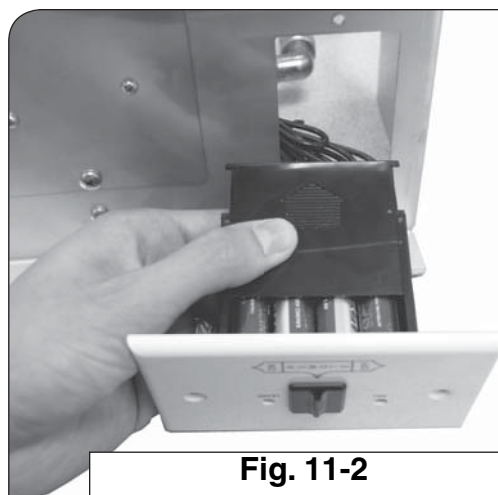

Fig. 11-2
To access the "AA" battery pack, unscrew and remove the two (2) retaining screws on the control system. Pull out the control system and then slide open the battery pack lid as shown in Fig. 11-2. Replace the old batteries with four (4) new "AA" batteries. Resecure the battery pack lid and return the control system into the control panel. Screw in the two (2) retaining screws.